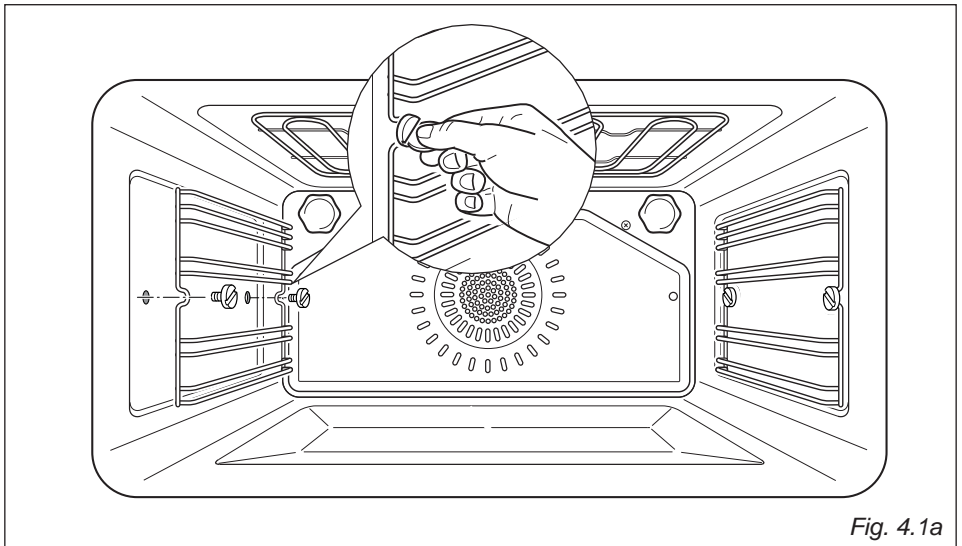

Fig. 4.1a
- Assemble the wire racks on the oven walls using the 2 screws (fig. 4.1a).
- Screw the side racks onto the oven wall (fig. 4.1a).
- Remove the side racks by unscrewing the fixing screws (fig. 4.1a).